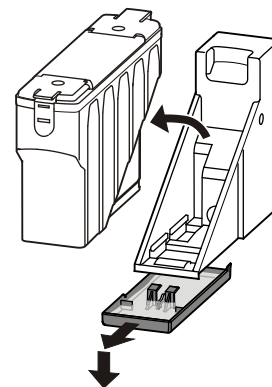

Figure 27
- To empty the water collecting tray: remove the water tank. Carefully disengage the tray forwards and then lower for removal (**Figure 27**).